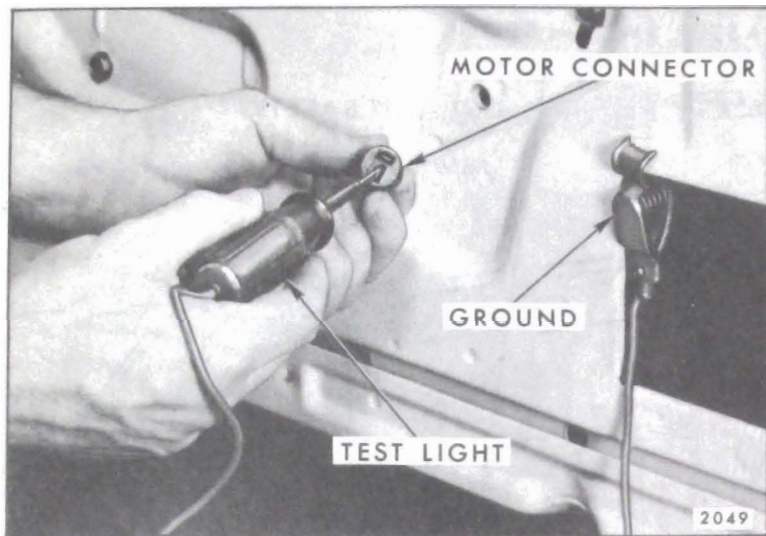

Fig. 11-22—Checking Circuit Between Switch and Motor
3. With test light check for current at terminal being tested. If tester does not light, there is an open or short circuit in the harness between the control switch and motor connector (see Fig. 11-22).
2. Insert one end of a #12 gauge jumper wire in the switch feed terminal and the other end in one of the motor lead terminals of the switch block (see Fig. 11-22).